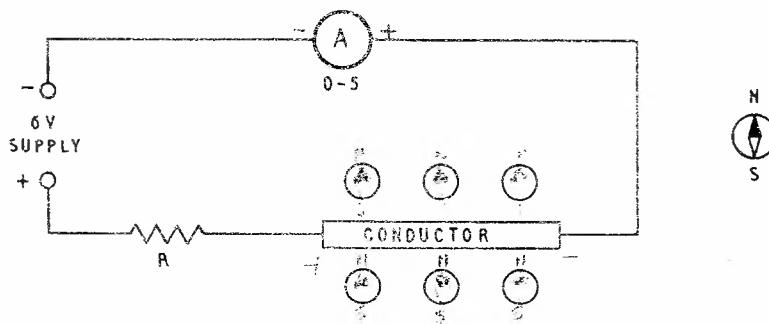

FIG. 1.
- STEP 1.** Connect the circuit as shown in Fig. 1. With the conductor horizontal, close the switch and move the compass along the length but slightly under the conductor, on both sides. Record the compass deflection on Fig. 1.